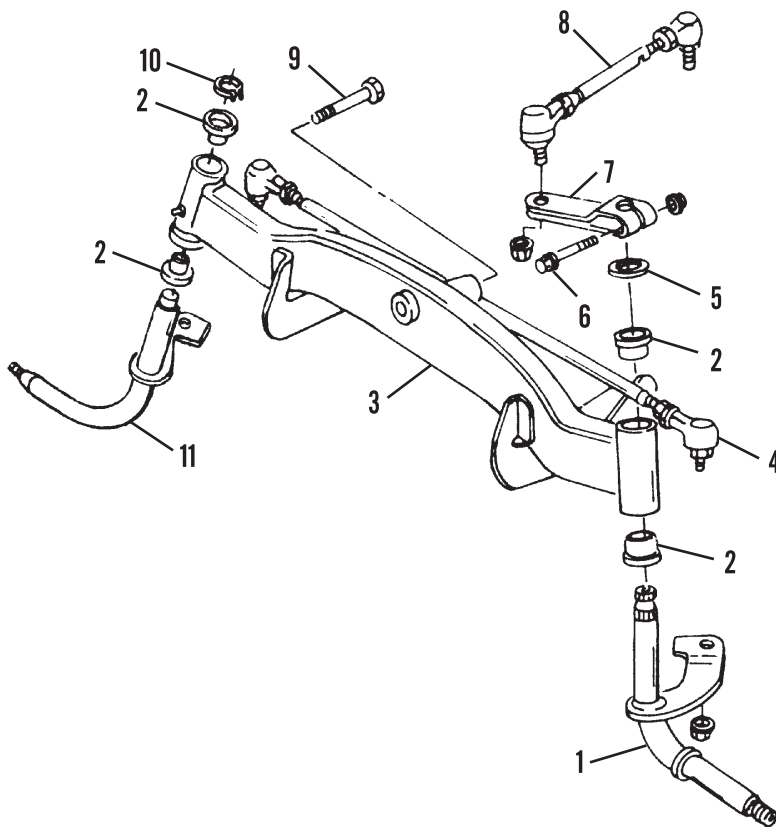

Fig. HN1-1—Exploded view of front axle assembly.
The tie rod (4—Fig. HN1-1) is equipped with threaded ends at each end. Replace the tie rod if the ends are damaged.
To remove the left spindle (1—Fig. HN1-1), remove the clamp bolt (6) and detach the steering arm (7) from the spindle. Slide spindle out of the axle.
To remove the right spindle (11—Fig. HN1-1), detach the snap ring (10) and slide the spindle out of the axle.
The complete front axle assembly may be removed as a unit. To remove the axle main member (3—Fig. HN1-1), raise and support the front of the tractor. Disconnect the drag link’s (8) outer end.